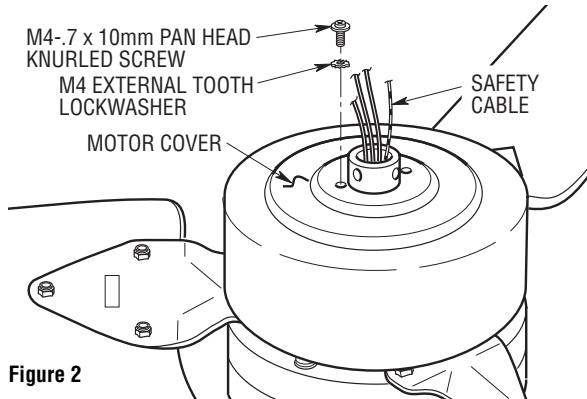

Figure 2
- 3. Route the three 48" motor leads and the safety cable through the center hole in the motor cover. Align the two holes in the motor cover with the threaded holes in the motor yoke and secure by installing two M4-.7 x 10mm pan head knurled screws and two M4 external tooth lockwashers (supplied) (Figure 2).